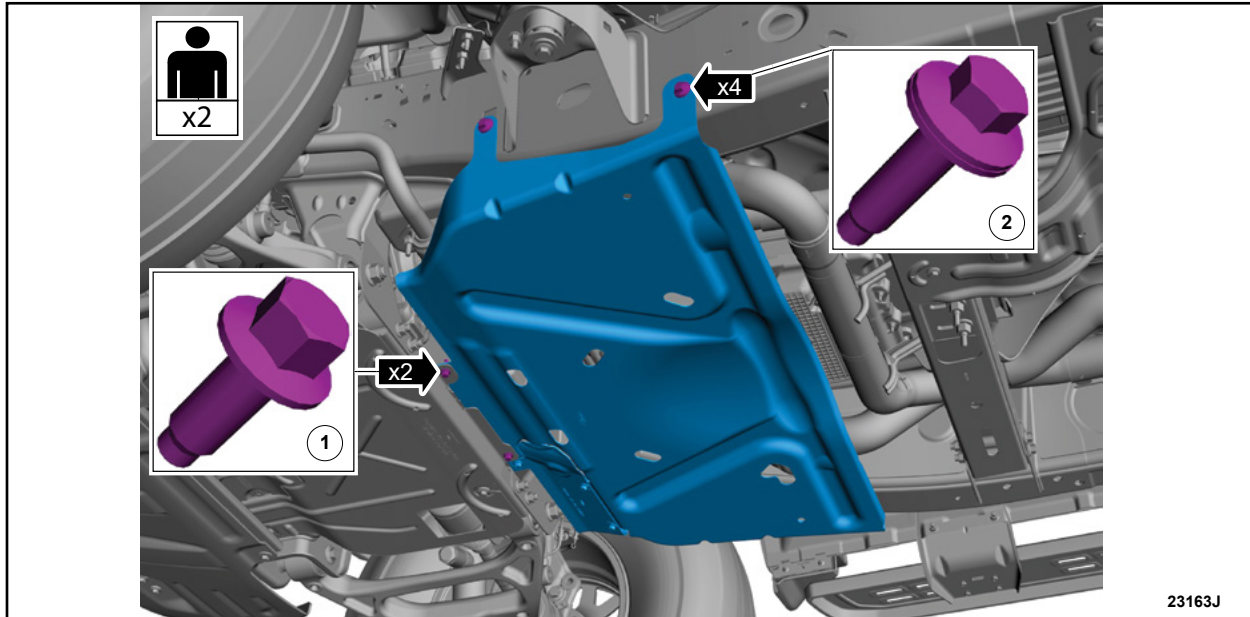

FIGURE 3
4. Using the aid of another technician, remove the bolts and the underbody shield. See Figure 3.